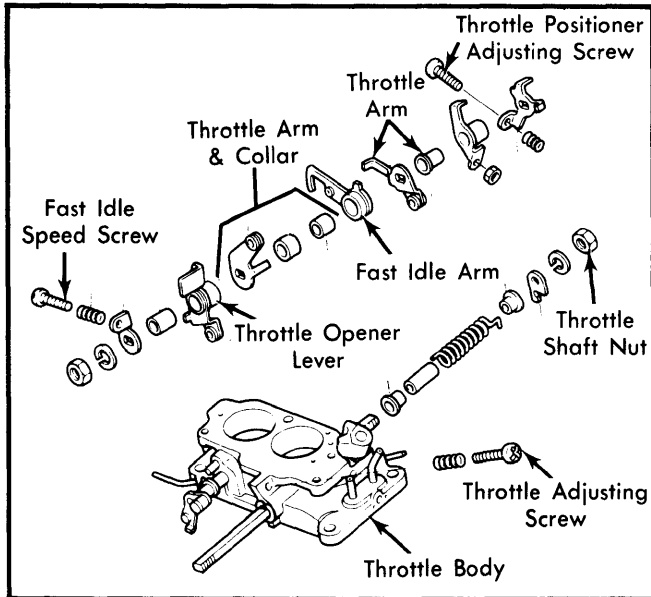

Fig. 12 Removing Throttle Body Parts
7) Remove throttle hanger and other levers, but do not remove throttle valve and shaft, venturi or choke valve and shaft from throttle body. See Fig. 12. Using a hacksaw, cut through mixture screw shell $\frac{1}{2}$ " (12 mm) from shell end. Remove and discard mixture screw, spring and shell.